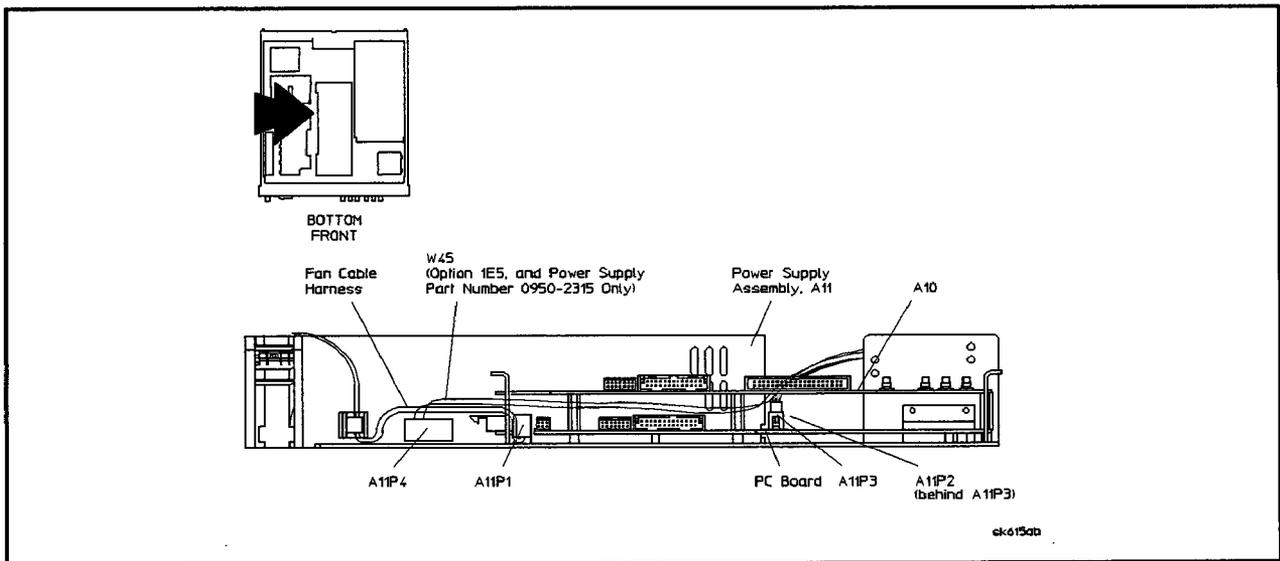

Figure 5-11. Fan Cable Location
3. Remove the red and black fan cable harness wires from the connector clip and connector A11P1 on the side of the power supply. See Figure 5-11.
- Be sure to route the Fan assembly wires down along the deck and clip them to the power supply and fan housing as shown in Figure 5-11.